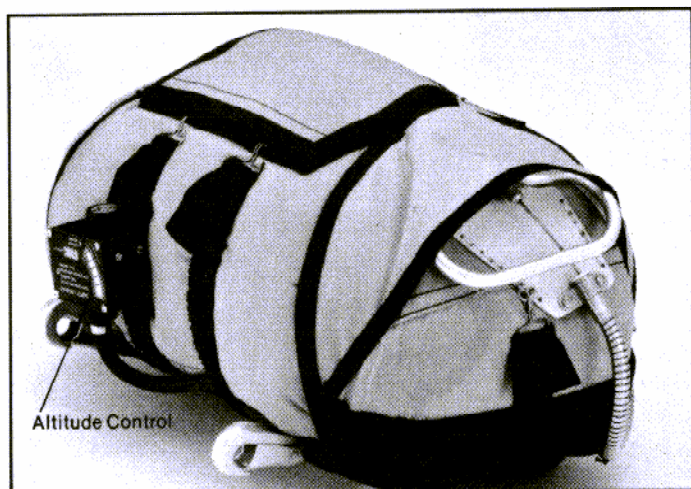

FIGURE 5
E. The Model 12000 Altitude Control and Air Hose, should be secured as shown in (Figure 5) and by feeding the opening band through the Altitude Control Bracket.